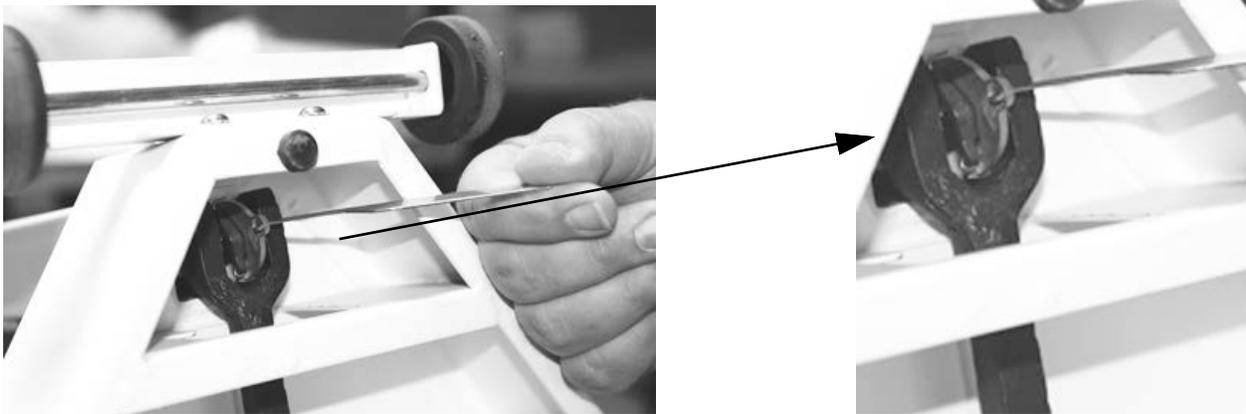

Figure 2-6. Connecting the Steelyard Rod to the Scale Base
3. Insert the wrench (included) to the small hole in front of the steelyard rod, and pull the hook of the steelyard rod with the hook of the wrench to connect it to the scale base as shown in Figure 2-6.